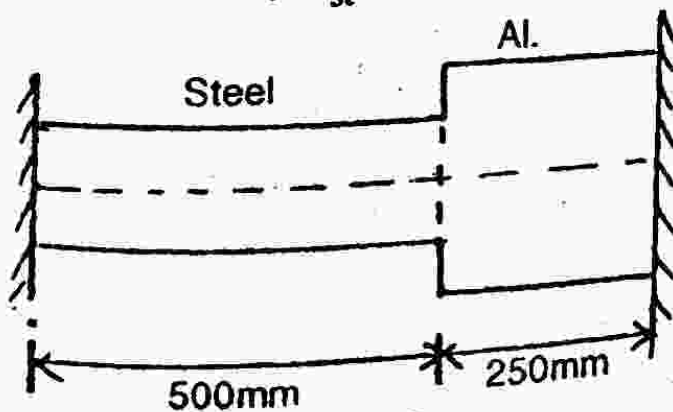

Fig. 2
2. A composite bar made up of aluminium and steel is held between two supports as shown in Fig. 2. Calculate the stress in the two bars when temp. is raised to 60°C . The cross sectional area of steel bar is 200 mm^2 and that of aluminium bar is 250 mm^2 . (13)